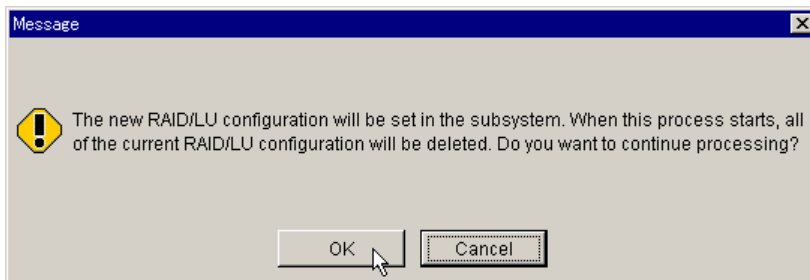

Figure 5.44 RAID/LU Configuration Data Deletion Warning Message
9. A warning message displays, stating that the current RAID/LU configuration will be deleted Figure 5.44. You should already have backed up your configuration information. Click **OK** to continue, or click **Cancel** to cancel.